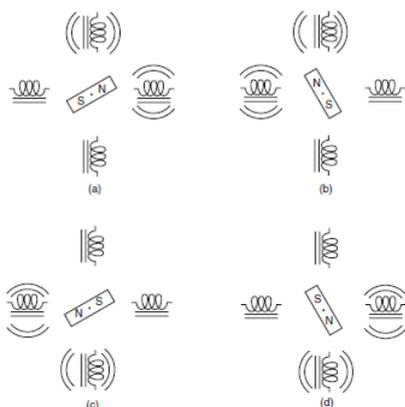

Figure 11-23: The stepper motor showing full-step operation a)45' b)135' c)225' d)315'
- has 4 coils and an armature (Fig11-23)